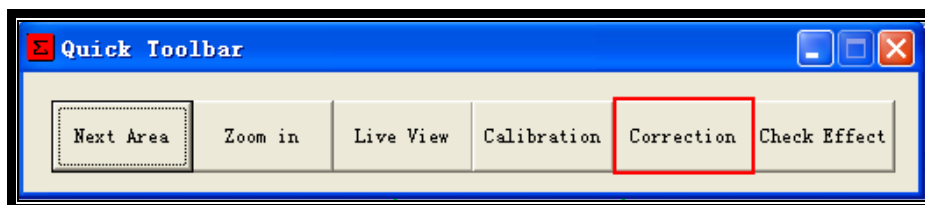
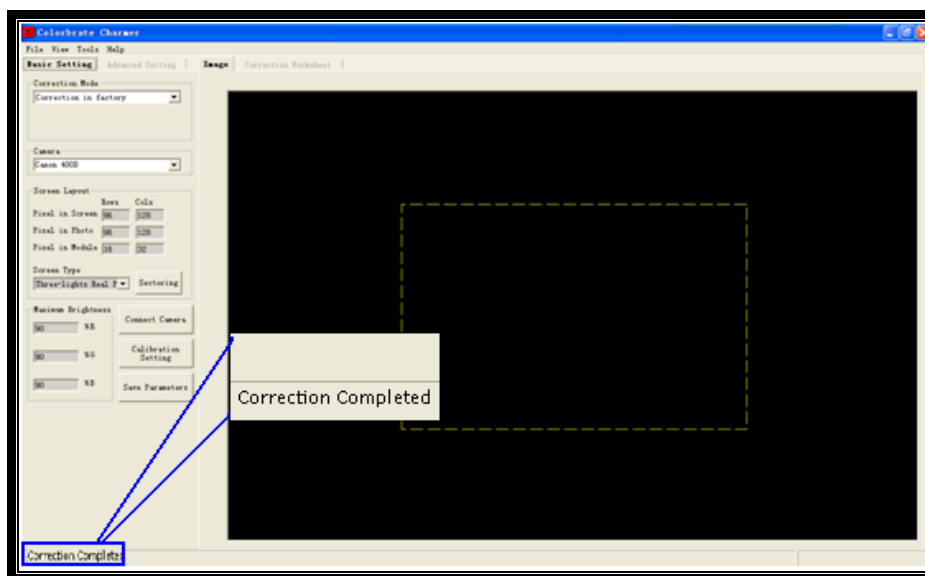

Fig.3-22
Fig.3-23
Step21: Click the “correction” button on Quick Toolbar, as shown in fig.3-22. The software will correct the LED cabinet automatically. After correction, the completed message pops up at lower left corner of the window, as shown in Fig. 3-23.